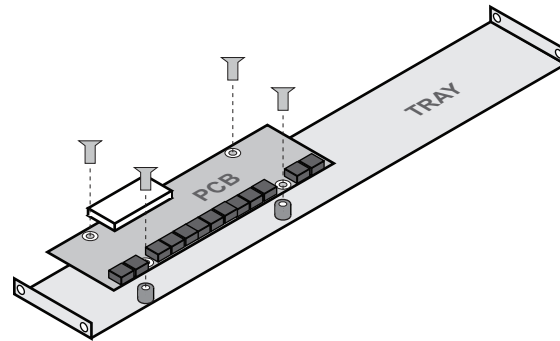

Figure 6 Installing the Breakout PCB on the Rack Tray
1. Position the Breakout PCB atop the screw posts on the tray. Refer to **Figure 6**.